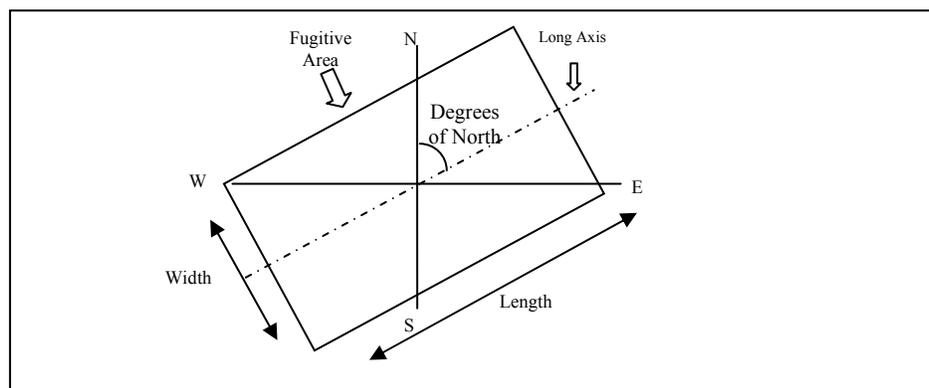

Figure 1. Orientation of Fugitive Area
4. **Regulated Entity Reference Number (RN):** The number that Central Registry assigns to a location where a TCEQ-regulated activity occurs.
9. **Orientation:** Specify the fugitive area's long axis direction, measured in degrees of rotation from true north. The orientation may be measured in degrees East of North or degrees West of North. In Figure 1 the orientation could be described as 60 degrees East of North or 120 degrees West of North.